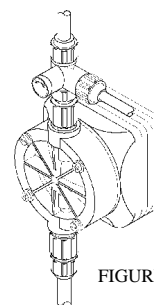

FIGURE 9
- If the discharge line is connected directly to a pressurized system it should be temporarily bypassed during priming of the pump. A bleed valve will simplify this operation by allowing easy bypass of the discharge fluid. Air must be purged from the pumphead before the pump will operate against pressure. (See Figure 9)